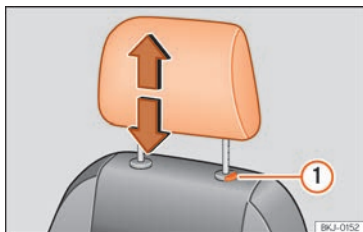

Fig. 141 Front headrest: adjusting or removing.
- Press catch ① » **Fig. 141** and remove the head restraint.